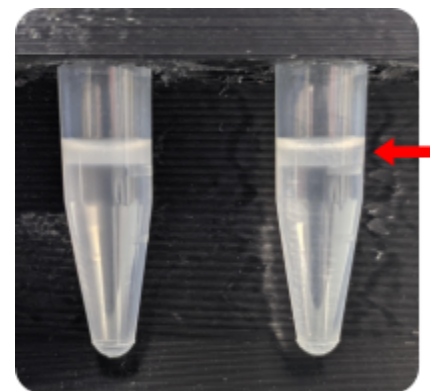

Figure 2. PIPs following addition of emulsification reagent. Take notice of the PIPs floating on top of the oil (red arrow).
7. Add 280 μ L Partitioning Reagent, along the side wall of the tube, to the cell:PIP mixture (Figure 2).